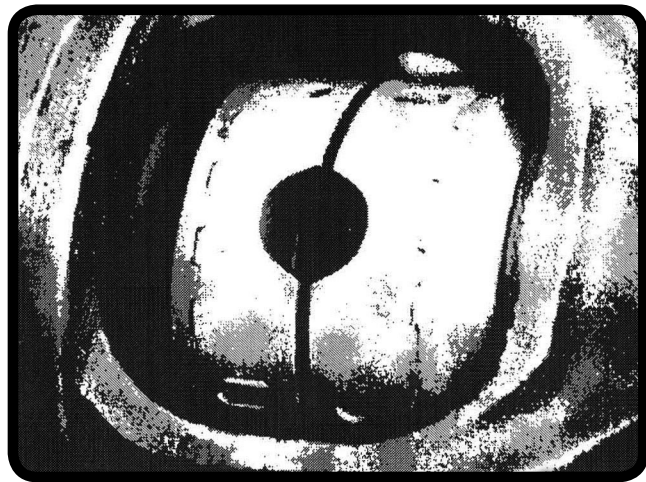

Figure 4
Pick up one of the driver-and-spacer assemblies. Orient its teeth toward the ring gear flange and hold it so that the flats (if present) will clear the sides of the case. Place it on the teeth of the coupler and press it into the grease (**Figure 4**). Reach into the center and push the spacer down onto the coupler shoulder (and over the C-Clip, if so equipped).
5. For non-C-Clip axles only, repeat this step for the other driver-and-spacer assembly (**Figure 4**), then **proceed to Section 3** on page 13.